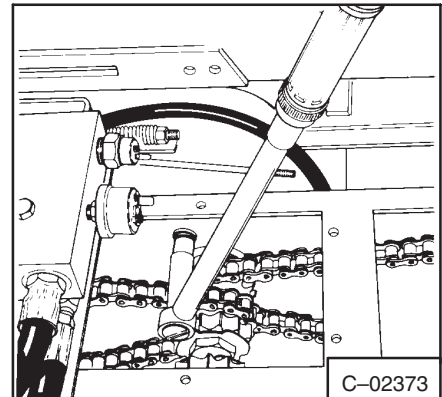

Fig. 3-34a Removing Motor Bolts
19. Remove the four fastening bolts from the motor (Fig. 3-34a).